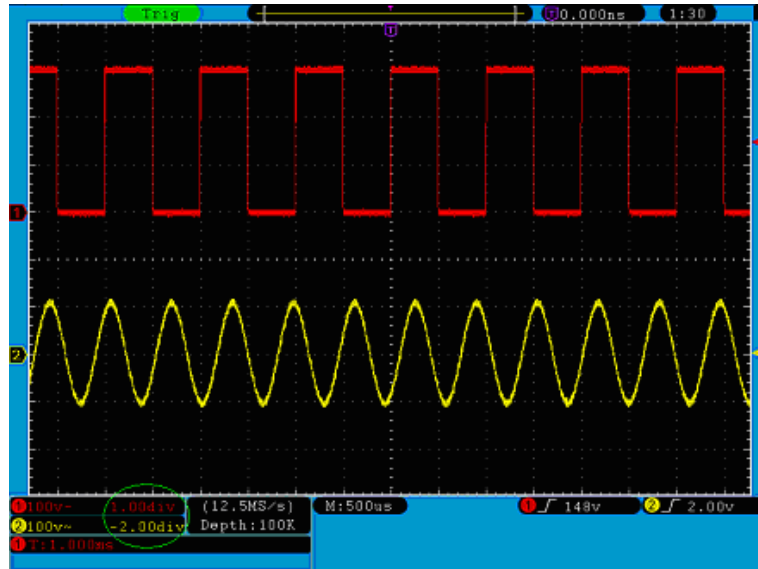

Figure 28. Information about Vertical Position.
- 3 When the vertical position of the channel waveform is adjusted, the changed value is displayed at the left bottom corner of the screen (see Figure 28).